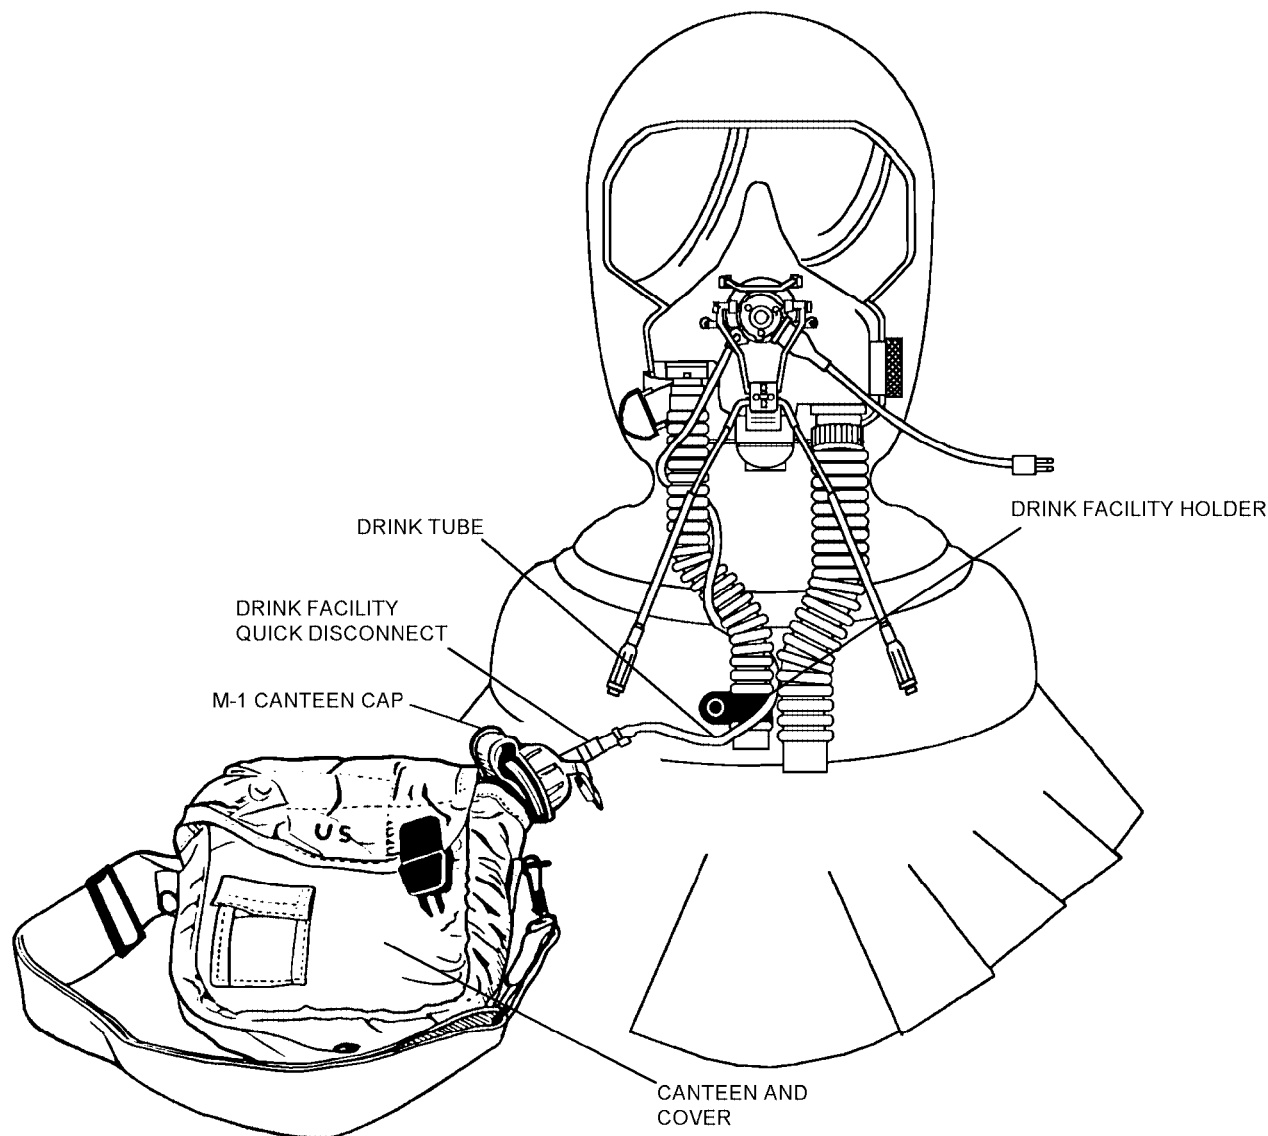

Figure 4-37. Drink Facility Connection to Canteen
1. Connection and use of the drink facility (figure 4-37).